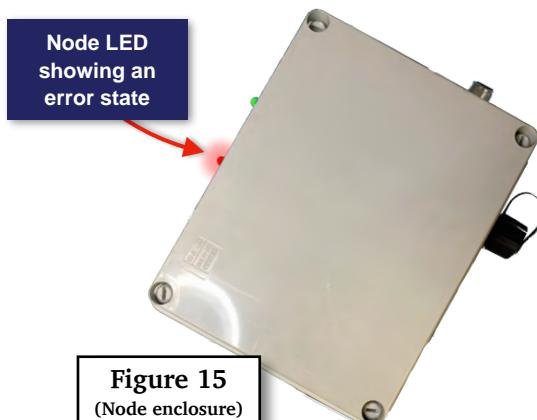

Figure 15
3 If Node has Red LED illuminated, (See Figure 15) disconnect 120 volt power lead on PC Board and wait 5 minutes for super capacitors to discharge. Then re-install 120 volt power lead to connector on PC Board. If Green LED is now illuminated, no further action is required. If Red LED is still illuminated, remove Node enclosure from pole and replace with a replacement Node enclosure. Replacement Node enclosure must be pre-programmed to recognize associated Hub and Nodes when 120 volt source power is connected to it. Hub and associated Nodes will follow commissioning step number 2 until system is operational. **If Node is still not operational at this time, please call (262) 279-3812, and a technician will further assist you.**